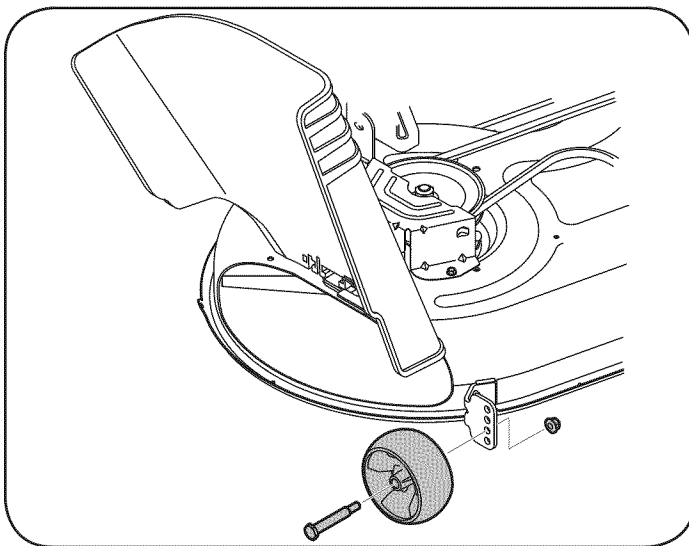

Figure 8
2. Position the wheel to the desired height as listed above. See Figure 8.